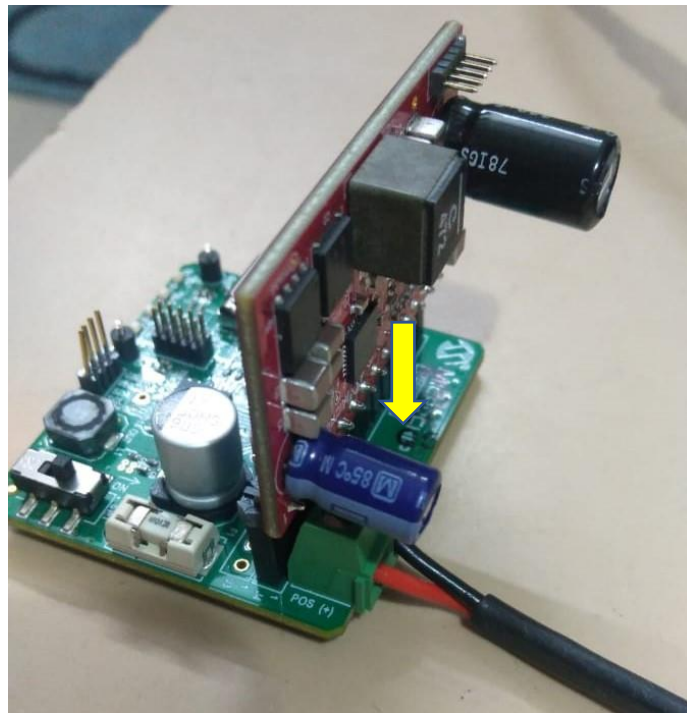

Figure 5.1 PM-PD Orientation
2. Connect PM-PD card on J4 in correct orientation as shown in Figure 5.1.